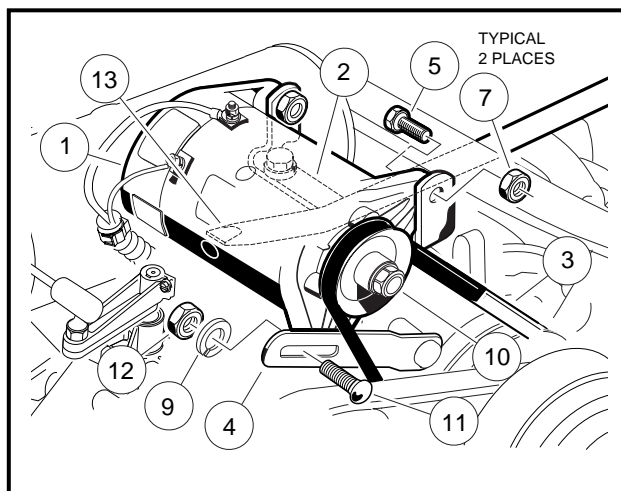
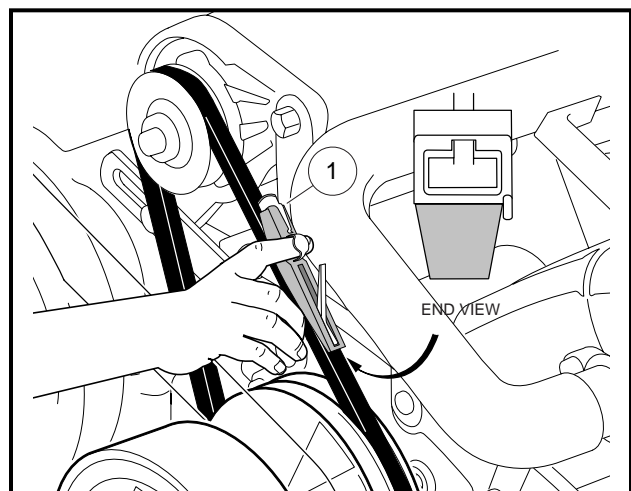

Figure 12-14 Starter/Generator Installation
Figure 12-15 Belt Tension Gauge
2. Install the two 3/8 hex head pivot screws (5) into the mounting bracket with the heads of the screws facing toward the driver side of the vehicle. Position the starter/generator in the mounting bracket so that the screws will go through the starter/generator before going through the bracket. Install a locknut (7) onto each screw. Finger-tighten the screws and nuts (**Figure 12-14, Page 12-11**).
3. Install the adjustment bolt (11) through the adjusting bracket (4) and then through the starter/generator. Install a lockwasher (9) and 5/16 nut (12) onto the end of the adjustment bolt (11). Tighten to finger tight (**Figure 12-14, Page 12-11**).
4. Install the belt (3) then tighten the mounting screws. **See Belt Adjustments.**
3. Make sure the two pivoting screws (5) on the mounting bracket are finger tight. The carriage bolt (11) and hex nut (12) are to be finger tight also (**Figure 12-14, Page 12-11**).
4. Push the starter/generator down so it is at the lowest part of its adjustment travel. With the starter/generator belt fully in place around the drive clutch pulley, install the starter/generator belt (3) around the pulley (10) on the end of the starter/generator.
5. Position a pry bar (13) between the top of the starter/generator mounting bracket (2) and the underside of the starter/generator by passing the pry bar under the exhaust header.
6. While holding the pry bar, measure the belt tension using a Krikit[®] gauge (1) (available at NAPA[®] Auto Parts stores), or equivalent. Proper tension for a new starter/generator belt should be 75 ft-lb (101.7 N·m), or for an existing belt, 45 ft-lb (61 N·m) (**Figure 12-15, Page 12-11**).
7. While maintaining the tension, tighten the adjustment nut (12) to 12 ft-lb (16.3 N·m). Tighten the two pivot bolts (5) and hex nuts (7) to 23 ft-lb (31.2 N·m) (**Figure 12-14, Page 12-11**). **See following CAUTION.**